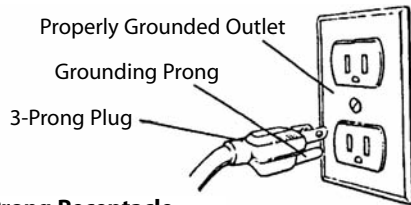

Figure 2 – 3-Prong Receptacle
- This grinder is equipped with an approved 3-conductor cord rated at 300V and a 3-prong, grounding type plug (See Figure 2) for your protection against shock hazards.
- Grounding plug should be plugged directly into a properly installed and grounded 3-prong grounding-type receptacle (See Figure 2).